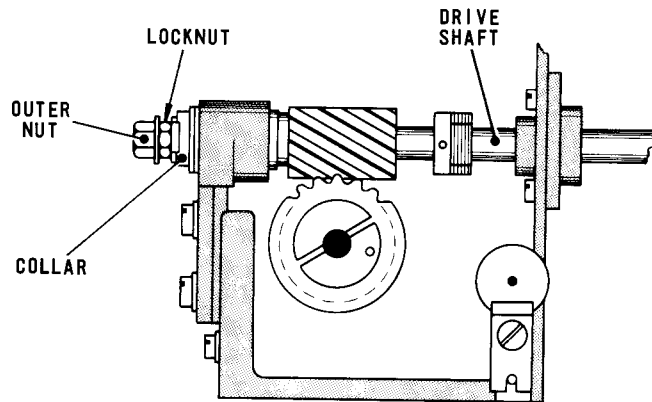

Fig. 4.9 SELECTOR DRIVE SHAFT
- 12.1 Check that the selector drive shaft, Fig.4.9, is free to turn and that its end-play does not exceed .003 in.